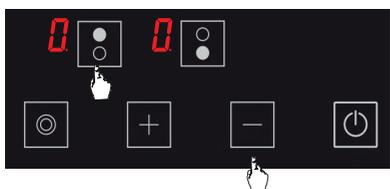

Figure 14
1. Press upper hob selection key (⏏) and minus key (⏏) simultaneously, you shall hear a short warning signal at this time. (see Fig. 14) Then, remove your fingers from the stove control panel.